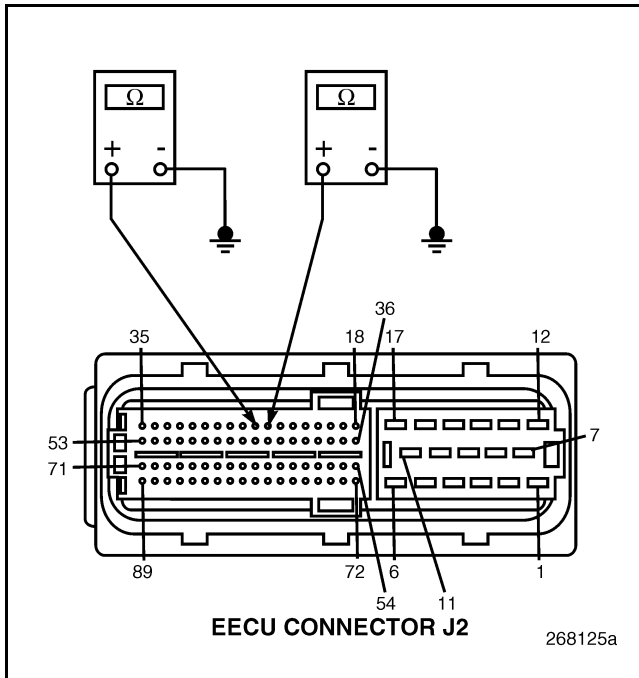

Figure 836
4. Check for continuity between EECU harness connector J2, pins 25 and 26 and a good ground (see Figure 836).